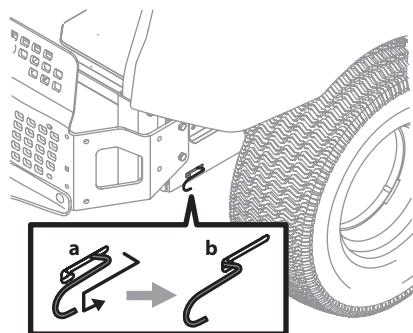

Figure 2-1
- Engage the transmission bypass rods, one on each side of the tractor, to move the tractor manually without starting it. The transmission bypass rods are located on the rear of the tractor, just inside each rear wheel. Disengage the parking brake and engage the bypass rods by pulling each one back (a) and hooking it into the slot (b) to lock it into place. See Figure 2-1.
- Disengage the bypass rods by reversing steps a & b after moving the tractor. See Figure 2-1.